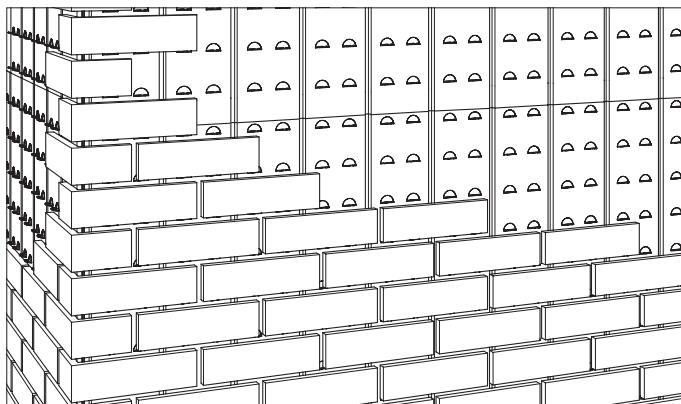

FIGURE 10
- Complete the first two courses to serve as a guide for the rest of the wall. Examine the work from a distance occasionally to ensure that the spacing of brick is consistent (see Figure 10).